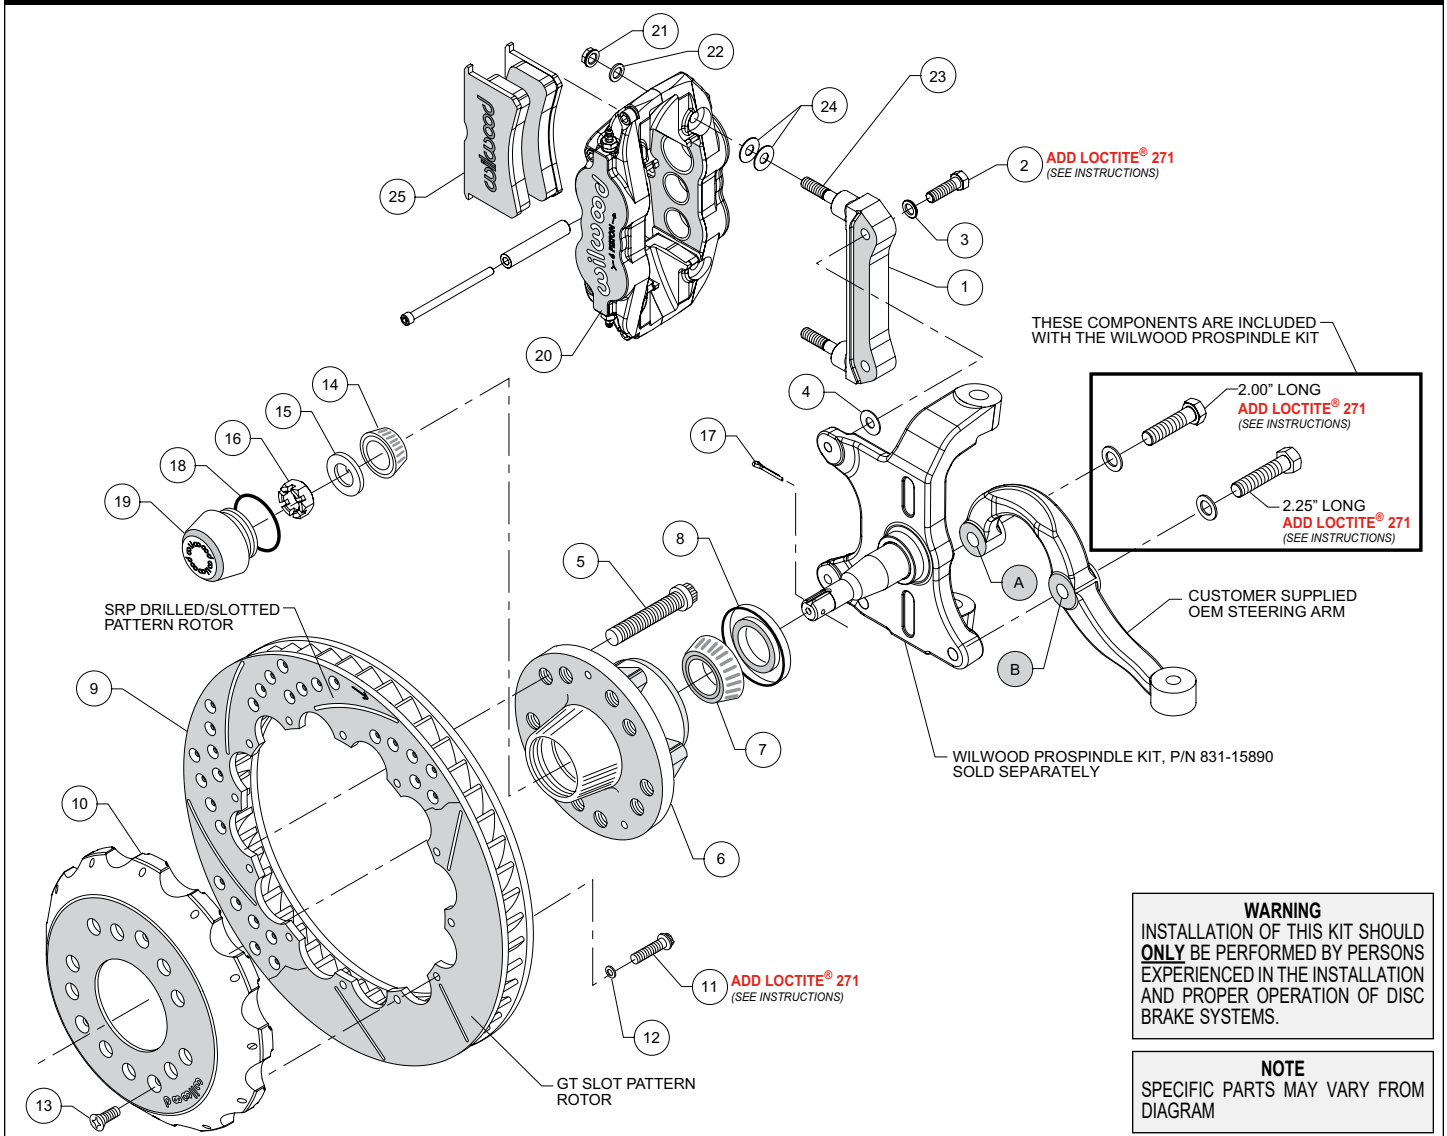
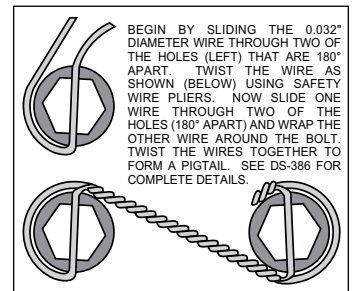

Figure 1. Typical Installation Configuration
Figure 3. Safety Wire Diagram
NOTE: Numbers in parenthesis refer to the parts list and Figure 1 on the preceding pages.
•**NOTE:** Wilwood's AFX ProSpindle kit includes bolts and washers to mount the steering arm (customer supplied) to the spindle. The various bolts are identified by length in the following instructions and in Figure 1.
•Orient the steering arm, and identify the hole marked "A" as shown in Figure 1. Attach arm to spindle using 2.00" long bolt and washer (from ProSpindle kit), Figure 1. Finish attaching the steering arm through the hole marked "B", using 2.25" long bolt and washer (from ProSpindle kit), Figure 1. Temporarily tighten the mounting bolts. **NOTE:** The steering arm must fit squarely against the mounting points on the spindle. Inspect for interference from casting irregularities, machining ridges, burrs, etc. Remove bolts one at a time, apply red *Loctite*® 271 to threads, and torque to 77 ft-lb.
•The caliper mount bracket (1) should initially be installed with clean, dry threads on the mounting bolts. Orient the bracket as shown in Figure 1, and install using bolts (2) and washers (3). Initially place one .035" thick shim (4) on each bolt between the bracket and spindle, Figure 1 and Photo 1. Temporarily tighten the mounting bolts. **NOTE:** The bracket must fit squarely against the mounting points on the spindle. Inspect for interference from casting irregularities, machining ridges, burrs, etc. Later, after the caliper alignment has been checked, the mount bolts will be secured using red *Loctite*® 271.
•Install wheel studs (5) into the hub (6), Photo 2. Torque to 77 ft-lb. **NOTE:** There are two five lug patterns in the hub (5 x 4.50 and 5 x 4.75). Ensure the correct hub stud pattern is being used to fit the wheel application.
•Pack the large inner bearing cone (7) with high temperature disc brake bearing grease (available from your local auto parts store) and install into the backside of the hub (6), Photo 3.
•Install the grease seal (8) by pressing into the backside of the hub (6), flush with the end of the hub, Photo 3.
•Pack the small outer bearing cone (14) with high temperature disc brake bearing grease and install into front of hub (6). Slide the hub assembly onto the spindle. Secure using spindle washer (15) and spindle nut (16), Photo 4. Bearing adjustment: Tighten the nut while turning the hub. When there is a slight bind on the bearings, they are seated correctly. Back the nut off about 1/6 to 1/4 of a turn, or sufficiently to allow .001" to .007" end play. **WARNING:** Failure to back off adjusting nut could cause bearing to run hot and be damaged, which could cause the wheel to lock or come off. Install a new cotter pin (17).
•Screw dust cap (19) into hub (6). Friction created by the o-ring (18) on the dust cap keeps it from unscrewing. **NOTE:** The O.D. of the existing OEM spindle washer may be larger than the I.D.
- Orient the rotor (9) and the hat (10) as shown in Figure 1 and Photo 5. Attach rotor to hat using bolts (11) and washers (12). Apply red *Loctite*® 271 to the bolt threads and torque to 155 **in-lb** using a criss-cross pattern. For an added measure of security, the bolts may be safety wired using standard 0.032 inch diameter stainless steel safety wire as shown in Figure 3. Refer to Wilwood's data sheet DS-386 (available at www.wilwood.com/Pdf/DataSheets/ds386.pdf) for complete safety wire installation instructions.
- **NOTE:** *This kit contains distinct right and left hand calipers that must be mounted in a specific direction, as described below.* Initially place two .035" thick shims (24) on each stud (23) between the caliper and the bracket, as shown in Figure 1 and Photo 7. Mount the caliper (20) onto the bracket (1) using lock nuts (21) and washers (22), Figure 1. Ensure that the caliper is mounted so the largest pistons are at the rotor exit end of the caliper, in relation to the direction of rotor rotation. Temporarily tighten the lock nuts and view the rotor through the top opening of the caliper. The rotor should be centered in the caliper, Photo 8. If not, adjust by adding or subtracting shims (4) between the bracket and the spindle. Always use the same amount of shims on each of the two mounting bolts. Once the caliper alignment is correct, remove the bracket mounting bolts (2) one at a time, apply red *Loctite*® 271 to the threads, and torque to 40 ft-lb.
- Remove the caliper center bridge pad retainer bolt, nut, and tube from the caliper. Insert the brake pads (25) into the caliper, with the friction material facing the rotor, as shown in Photo 9. Check that the top of the brake pad is flush with the outside diameter of the rotor, Photo 10. If not, adjust by adding or subtracting shims (24) between the caliper and the bracket. After the caliper pad height is set, torque the caliper lock nuts (21) to 30 ft-lb. Secure the brake pads in place with the center bridge pad retainer tube, bolt, and locknut, Photo 11. The locknut should be snug without play in the bolt or tube. Be cautious not to over tighten.